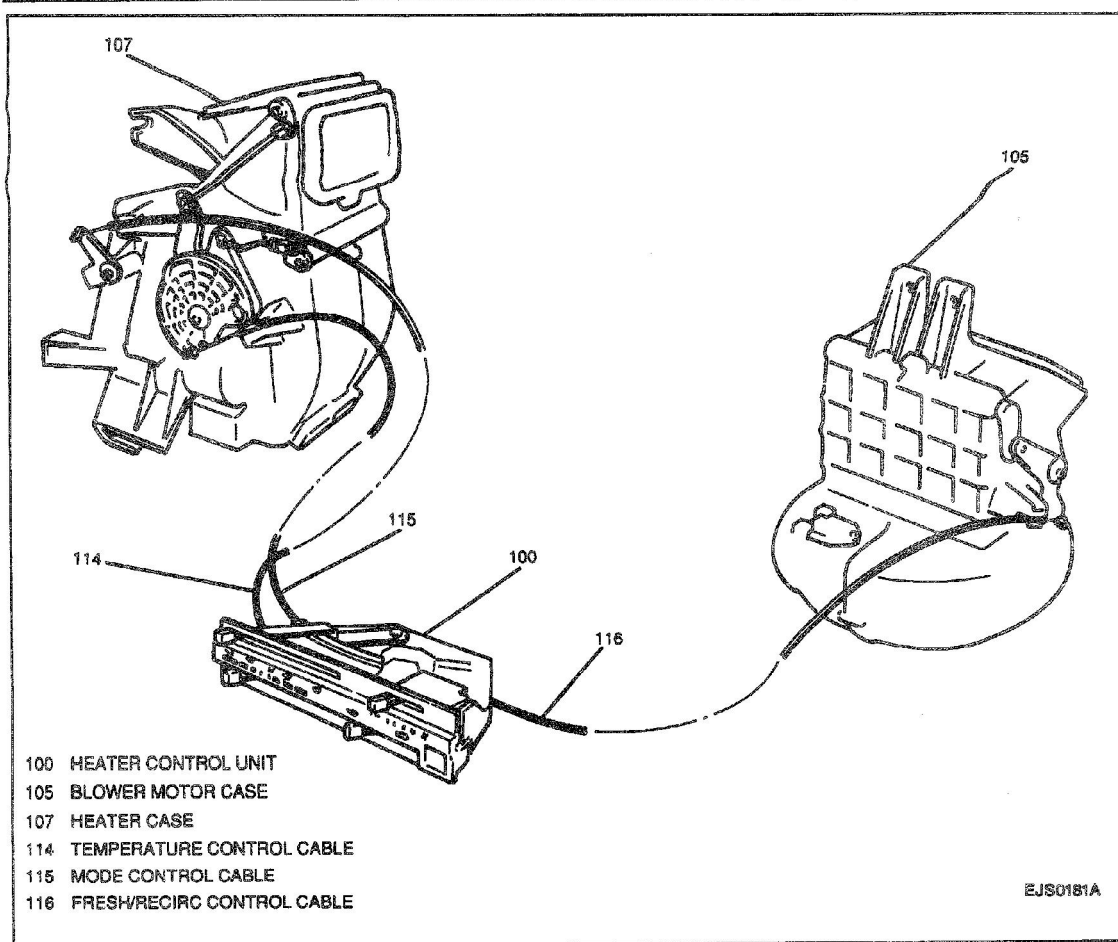

Figure 15—Heater Control Unit Control Cables
24. Mode and temperature control cables on right side of heater case (Figure 15).
25. Fresh/Recirculation control cable at blower case (Figure 15).